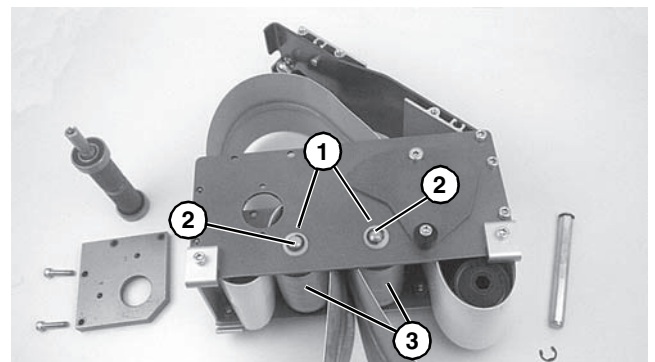

Figure 58
- For 2” (44 mm), 3” (70 mm) or 4” (95 mm) wide conveyor, detach E-ring clips and remove washers (**Figure 58, item 1**). Remove pulley shafts (**Figure 58, item 2**) and pulleys (**Figure 58, item 3**).